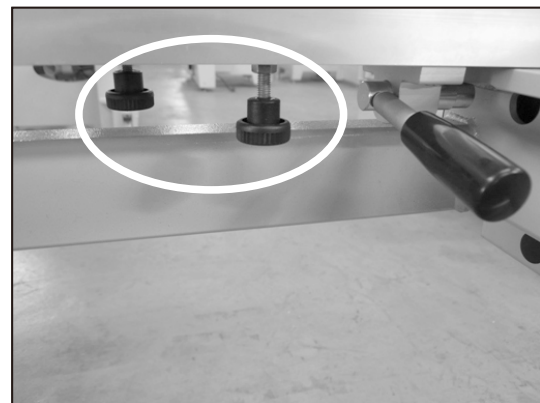

Fig.4
4. 2 knobs in Fig. 4 is to fasten the scale on the crosscut fence.